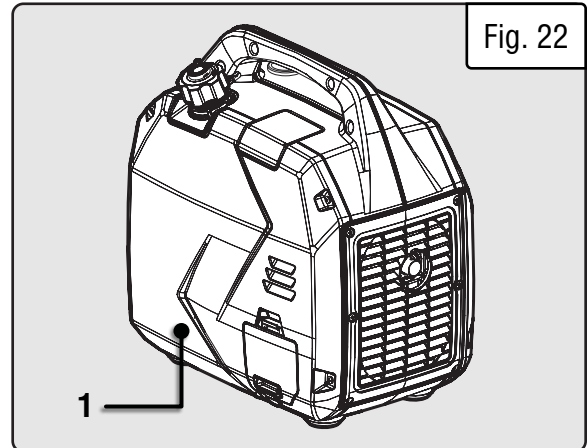

Fig. 22
1. Remove the oil access panel. Unscrew the four Phillips-head screws and remove the side panel (Fig. 22 - 1).
2. Unscrew the six Phillips head screws and remove the muffler cover (Fig. 22 - 1).